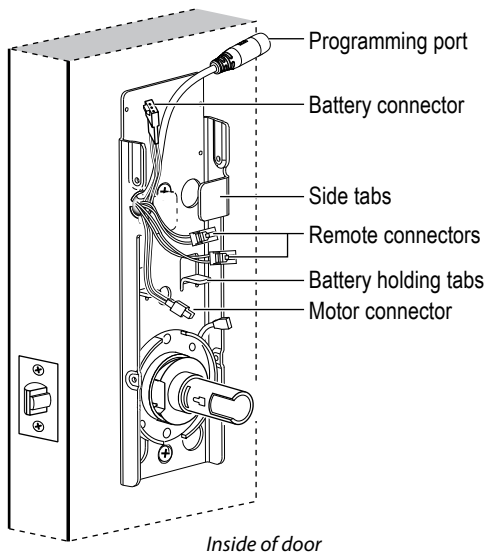

Figure 14 Routing the wires on the fire plate
- 1 Route the motor connector wires underneath the side tabs, as shown in Figure 14.